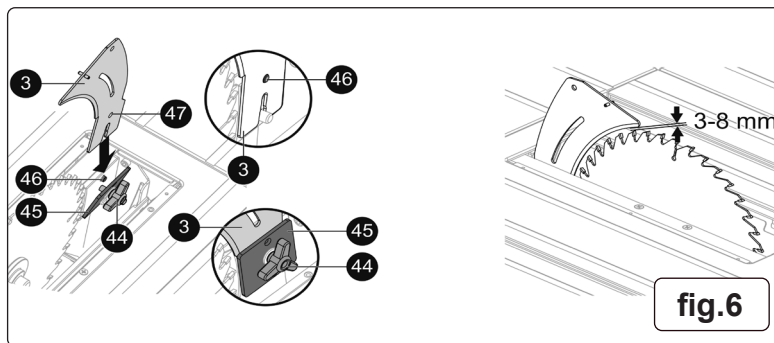

fig.6
5.3.7. When re-assembled, the gap between the riven knife and saw blade should be between 3mm and 8mm (fig.6).